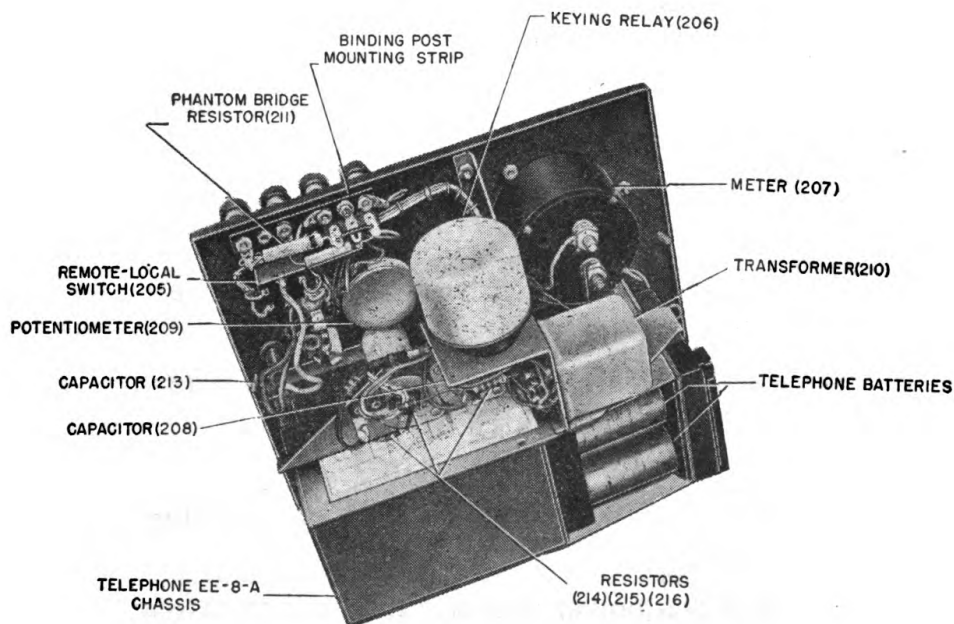

Fig. 14—Control Unit RM-12-G—chassis equipment
(1) Figures 14 to 18 show the arrangement of control unit equipment on their respective chassis.
(2) Schematic and wiring diagrams of the RM-12-(\*) and